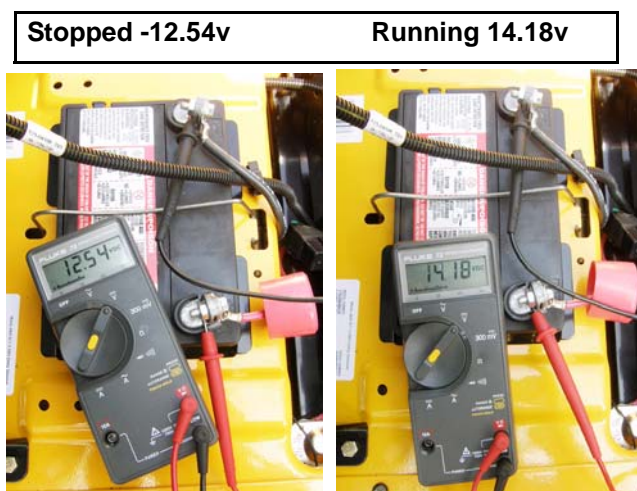

Figure 7.33
3. Quick check, to see if there is a problem. See Figure 7.33.